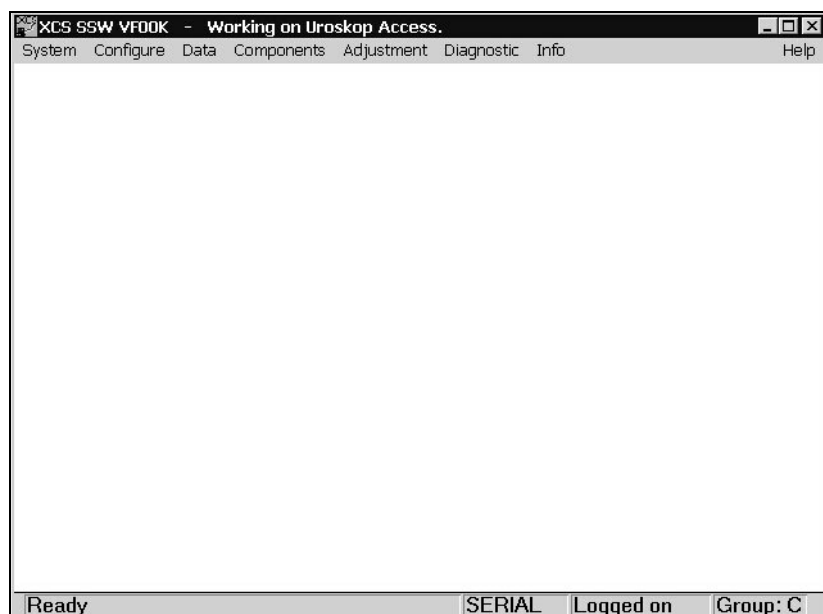

Fig. 12
- Select "Customer Data" under the "Info" menu in the SSW home menu (Fig. 12).